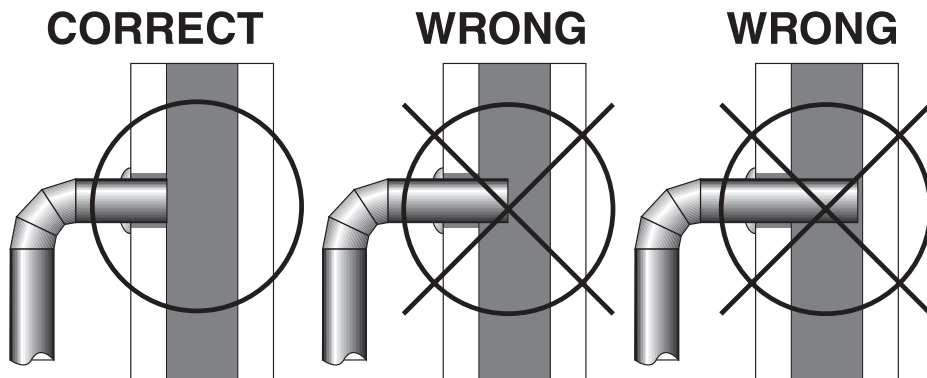

Figure 14 – Stovepipe/Flue Connections
1. The crimped end of the stovepipe fits inside the stove flue collar. Secure with three (3) sheet metal screws. The first section of connector pipe must be single walled to properly attach to the stove collar. Install additional pipe and elbow with the crimped end towards the stove. This will allow any condensation in the flue to run back into the firebox.
4. The pipe cannot extend into the chimney flue (figure 14).
6. It is recommended that no more than two (2) 90° bends be used in the stovepipe installation. The use of more than two 90° bends may decrease the amount of draw and possibly cause smoke spillage. Where possible, use only corrugated (non adjustable) elbows. These provide a better seal.
2. Install a metal or fire clay (5/8”/16mm minimum thickness) thimble. Make sure the thimble is flush with the inner surface of the chimney liner and does not protrude into the flue (see figure 14 on page 10).
4. Install the stovepipe into the thimble as far as possible without extending past the flue lining (see figures 14 & 15 on pages 10 & 11).